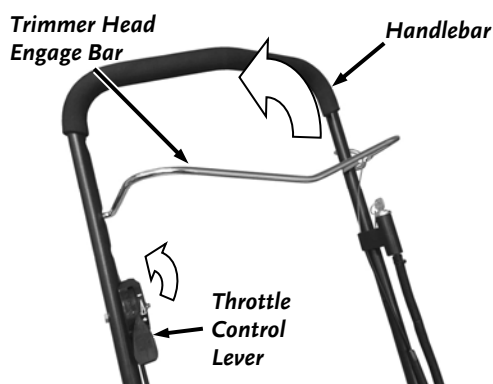
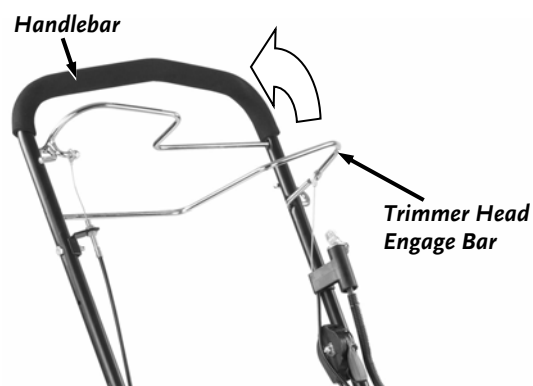

Figure 11
Figure 12
1. Move the Throttle Control Lever (**Figure 11**) all the way back past the Idle  position.
1. Bring the Trimmer Head Engage Bar toward you and grip it together with the Handlebar (non self propel **Figure 11**) (Self Propel **Figure 12**). Keep holding the Bar to the Handlebar. The Cutting Cords will rotate and will continue to rotate until you release the Bar.